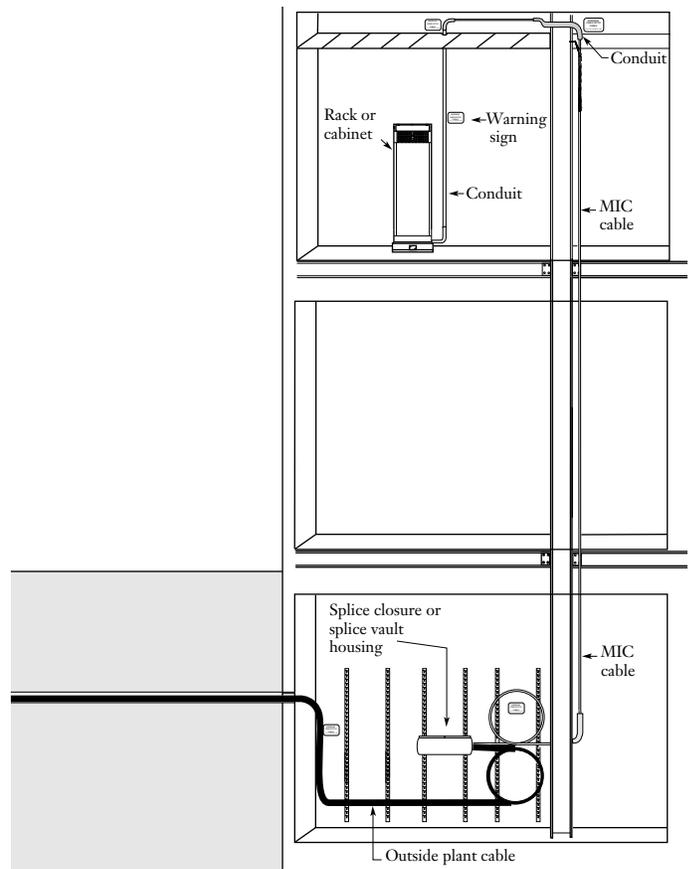

Figure 21
7.29 Use the following guidelines when installing cable at connector termination and splice points (Figure 21):